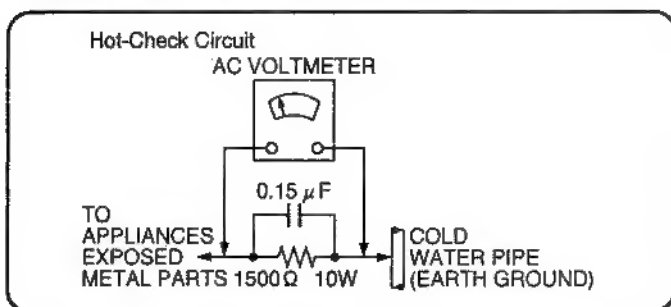

Figure 1
### LEAKAGE CURRENT HOT CHECK (See Figure 1.)
2. Connect a  $1.5k\Omega$ , 10 watts resistor, in parallel with a  $0.15\mu F$  capacitors, between each exposed metallic part on the set and a good earth ground such as a water pipe, as shown in Figure 1.